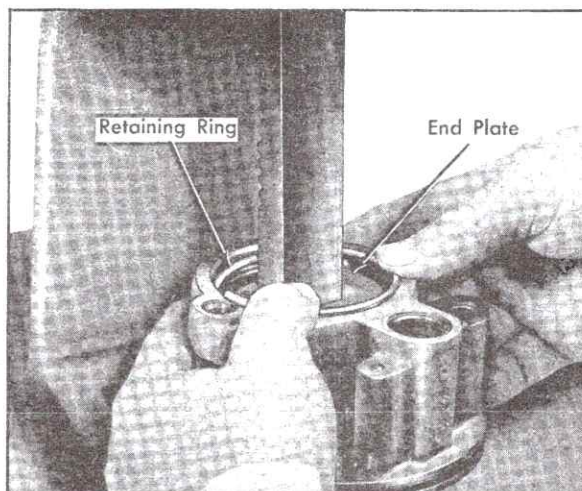

Fig. 9-19 Installing End Plate Retaining Ring
15. Place pump housing in arbor press, depress end plate below retaining ring groove, and install end plate retaining ring, Fig. 9-19. Make certain that ring is completely seated in groove of housing.